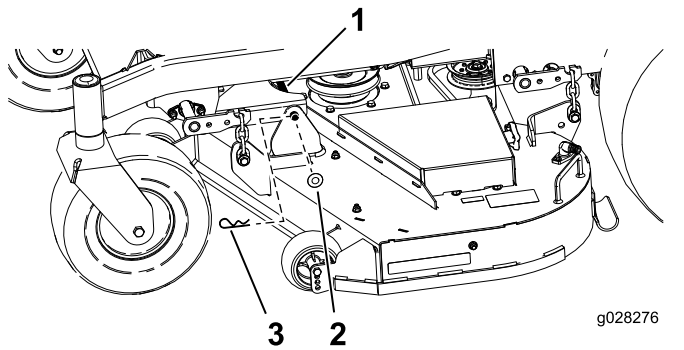

Figure 63
1. Remove the hairpin cotter and washer securing the link pin to the frame and deck, and remove the link bar (Figure 63).
9. Secure the link pin with the hairpin cotters and washers removed previously (Figure 63).